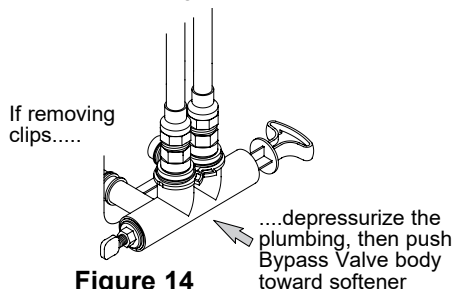

Figure 14
7. Check for leaks around clips at softener's inlet and outlet. If a leak occurs at a clip, depressurize the plumbing (turn off the water supply and open faucets) before removing clip. When removing clips at the softener's inlet or outlet, push the single bypass valve body toward the softener (See Figure 14). Improper removal may damage clips. Do not reinstall damaged clips.